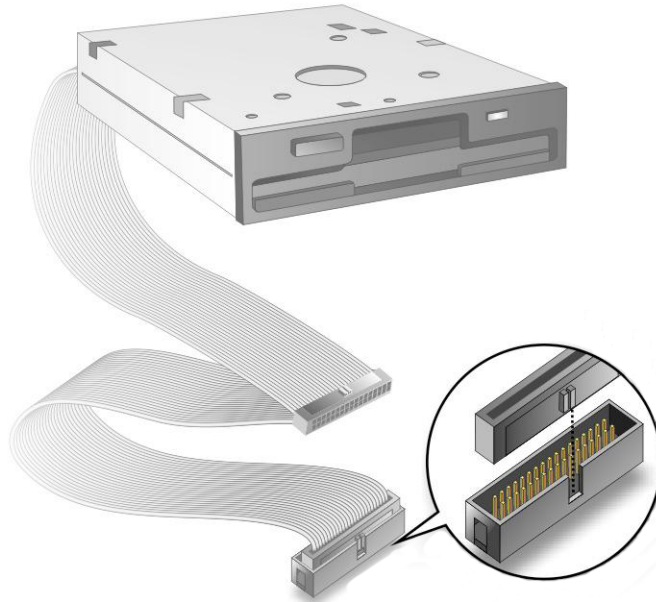

Figure 5-8: FDD Cable Connection
Step 2: Insert the connector. Connect the FDD cable connector to the on-board connector. See **Figure 5-8**. A key on the front of the cable connector ensures it can only be inserted in one direction.